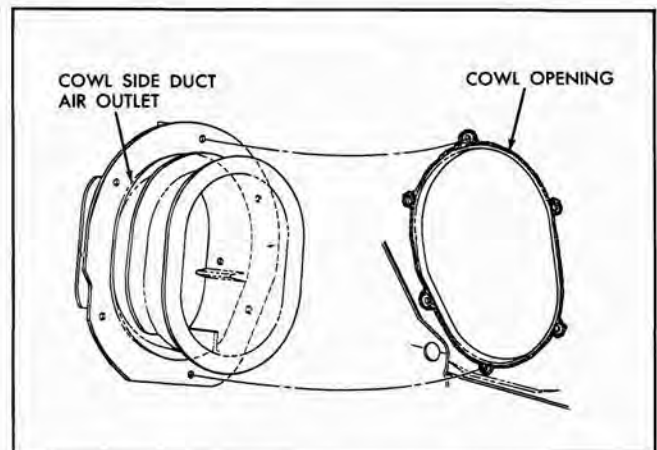

Fig. 12-25 Cowl Side Duct Air Outlet Sealing
3. To install, apply a bead of medium-bodied sealer to shroud panel at areas indicated in Fig. 12-25 and reverse removal procedure.